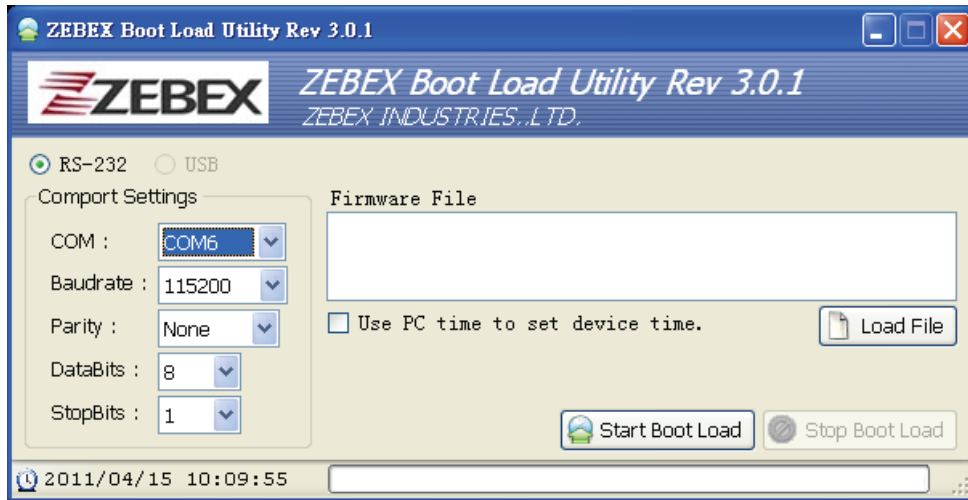

Fig 2
2. Connect the device to PC and run the firmware update tool on your PC to begin update. Fig 2 appears on PC.